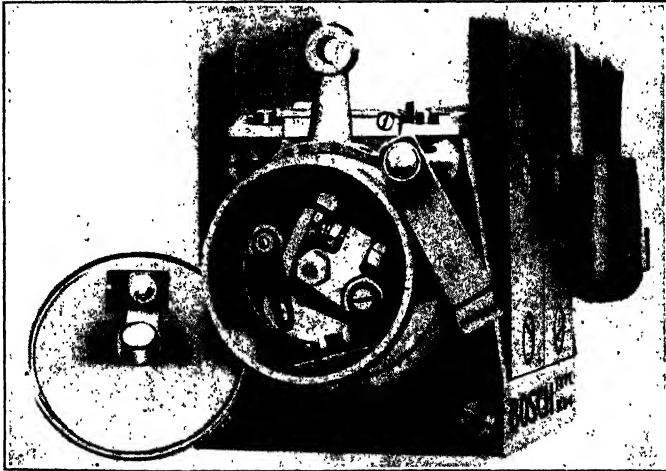
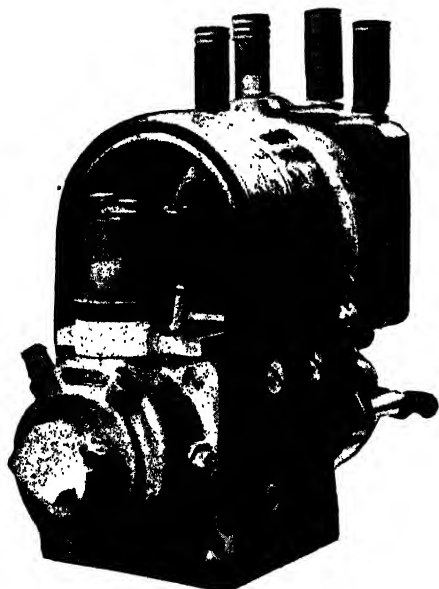

Fig. 63. Contact Breaker of High-Tension Magneto (Bosch)
Fig. 65. Contact-Breaker End,
**High-Tension Magneto.** Essentially all magnetos are the same: that is, they have a permanent magnet field and a two-pole armature. In what may be best identified by terming it the *true high-tension type*, there are two windings on this armature, a primary winding of comparatively coarse wire in which the current is generated, and a secondary winding of fine wire, the same as an induction coil. A magneto of this type is timed with the motor according to the number of cylinders, being driven at crankshaft speed in the case of a four-cylinder motor and at one and a half times crankshaft speed in the case of a six. In addition to the usual current-collecting device, it is equipped with a contact breaker or interrupter, such as that shown in Fig. 62, which is part of a Remy magneto. Fig. 63 shows the same essential of a Bosch light-car type magneto. Except at the point in the revolution at which the spark is to occur in the cylinder, the armature circuit is normally short-circuited upon itself. This permits it to "build up", so to speak; that is, as the armature poles come within the most intense part of the field, the current in the armature winding reaches its maximum value and, at this moment, the contact points of the breaker are opened and a strong current is induced in the secondary winding. As the distributor runs synchronously with the contact breaker, the circuit to one of the plugs is closed at the same time the spark occurs at it.
The magneto, Fig. 65, differs from the section, Fig. 63, chiefly in detail. The vertical plug just back of the contact-breaker box incorporates the safety gap.